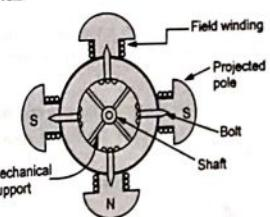

Fig. 9.4.2 Salient pole type rotor
- The poles are built up of thick steel laminations. The poles are bolted to the rotor as shown in the Fig. 9.4.2.